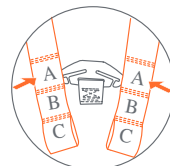

Fig. 34-2
10. Ensure the harness strap ends are fully hooked on the metal plate. Both sides must be threaded in the same position, position A (Fig. 34-2).